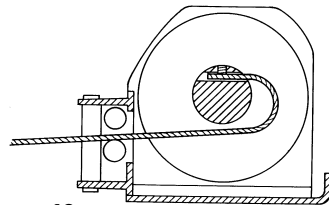

Figure 19
**Always replace damaged wire rope with manufacturer's identical replacement part** (see Replacement Parts list). Pass attaching end of wire rope through the fairlead (if equipped) and attach it to the drum. When inserting the wire rope into the drum, insert it into the correct end of the hole provided (Figure 19). Tighten the set screw securely.